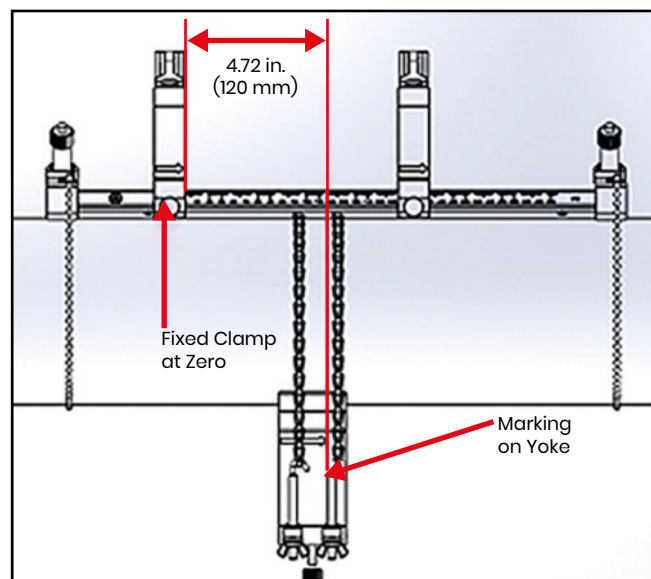

Figure 30: Yoke Set at 120 mm/4.72 in.
- Spacing <305 mm (120 mm/4.72 in. is used as an example): Measure the required 120 mm/4.72 in. distance from the edge of the fixed clamp to the marked line on the yoke (see *Figure 30* below).